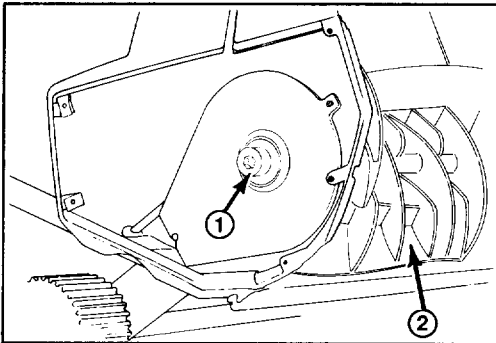

Figure 9
2. Using a 3/8" Allen wrench, turn the rotor shaft clockwise (left hand thread) while holding the rotor (Fig. 9). The Allen wrench may need to be tapped with a hammer to loosen the rotor shaft. Wedge a stick or hammer handle in rotor to prevent rotation.